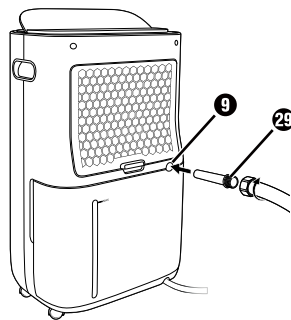

Fig. 4
- ◆ When using the EU garden hose adapter ❸, screw a garden hose onto the EU garden hose adapter ❸ (see figure 4).